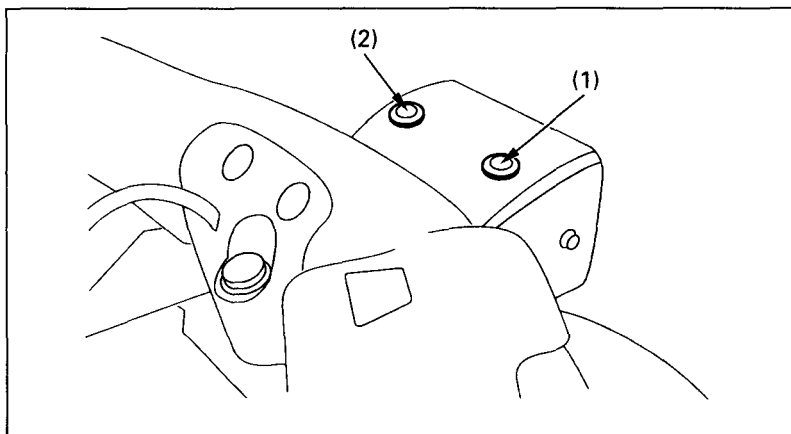

Fig. 2-11
The reverse indicator lamp (1) and the neutral indicator lamp (2) (Fig. 2-11) are located on the headlight case.